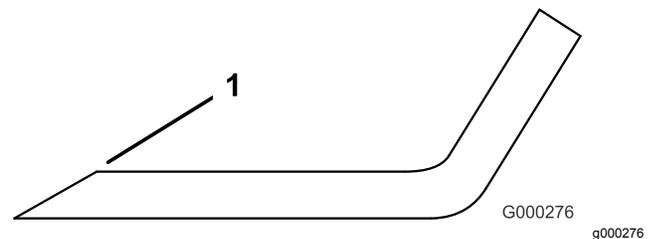

Figure 105
3. Examine the cutting edges of all of the blades and sharpen the cutting edges if they are dull or nicked (Figure 105).
Note: Sharpen only the top of the cutting edge and maintain the original cutting angle to ensure sharpness (Figure 105). The blade remains balanced if the same amount of metal is removed from both cutting edges.